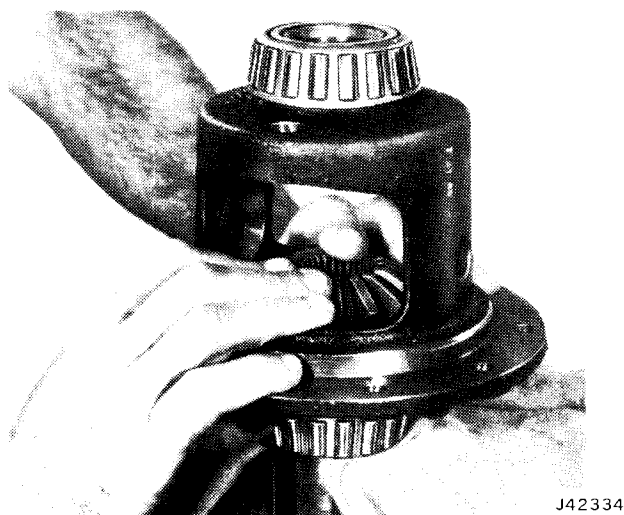

Fig. 10-73 Mounting Differential Case on Axle Shaft
NOTE: Be sure clutch pack stays assembled on side gear splines and that retainer clips are completely seated in case pockets. To prevent pack from falling out of case, it will be necessary to hold them in place by hand while mounting case on axle shaft (fig. 10-73).
(5) Mount case assembly on axle shaft (fig. 10-73).